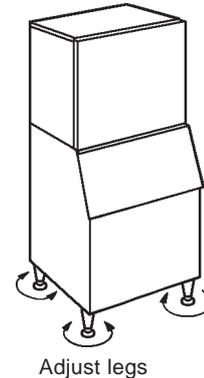

Fig. 5
- 6) Adjust the four legs on the bottom (adjustable from 0 to 25.4 mm) to have the icemaker perfectly horizontal. Use the spirit level. See Fig. 5.